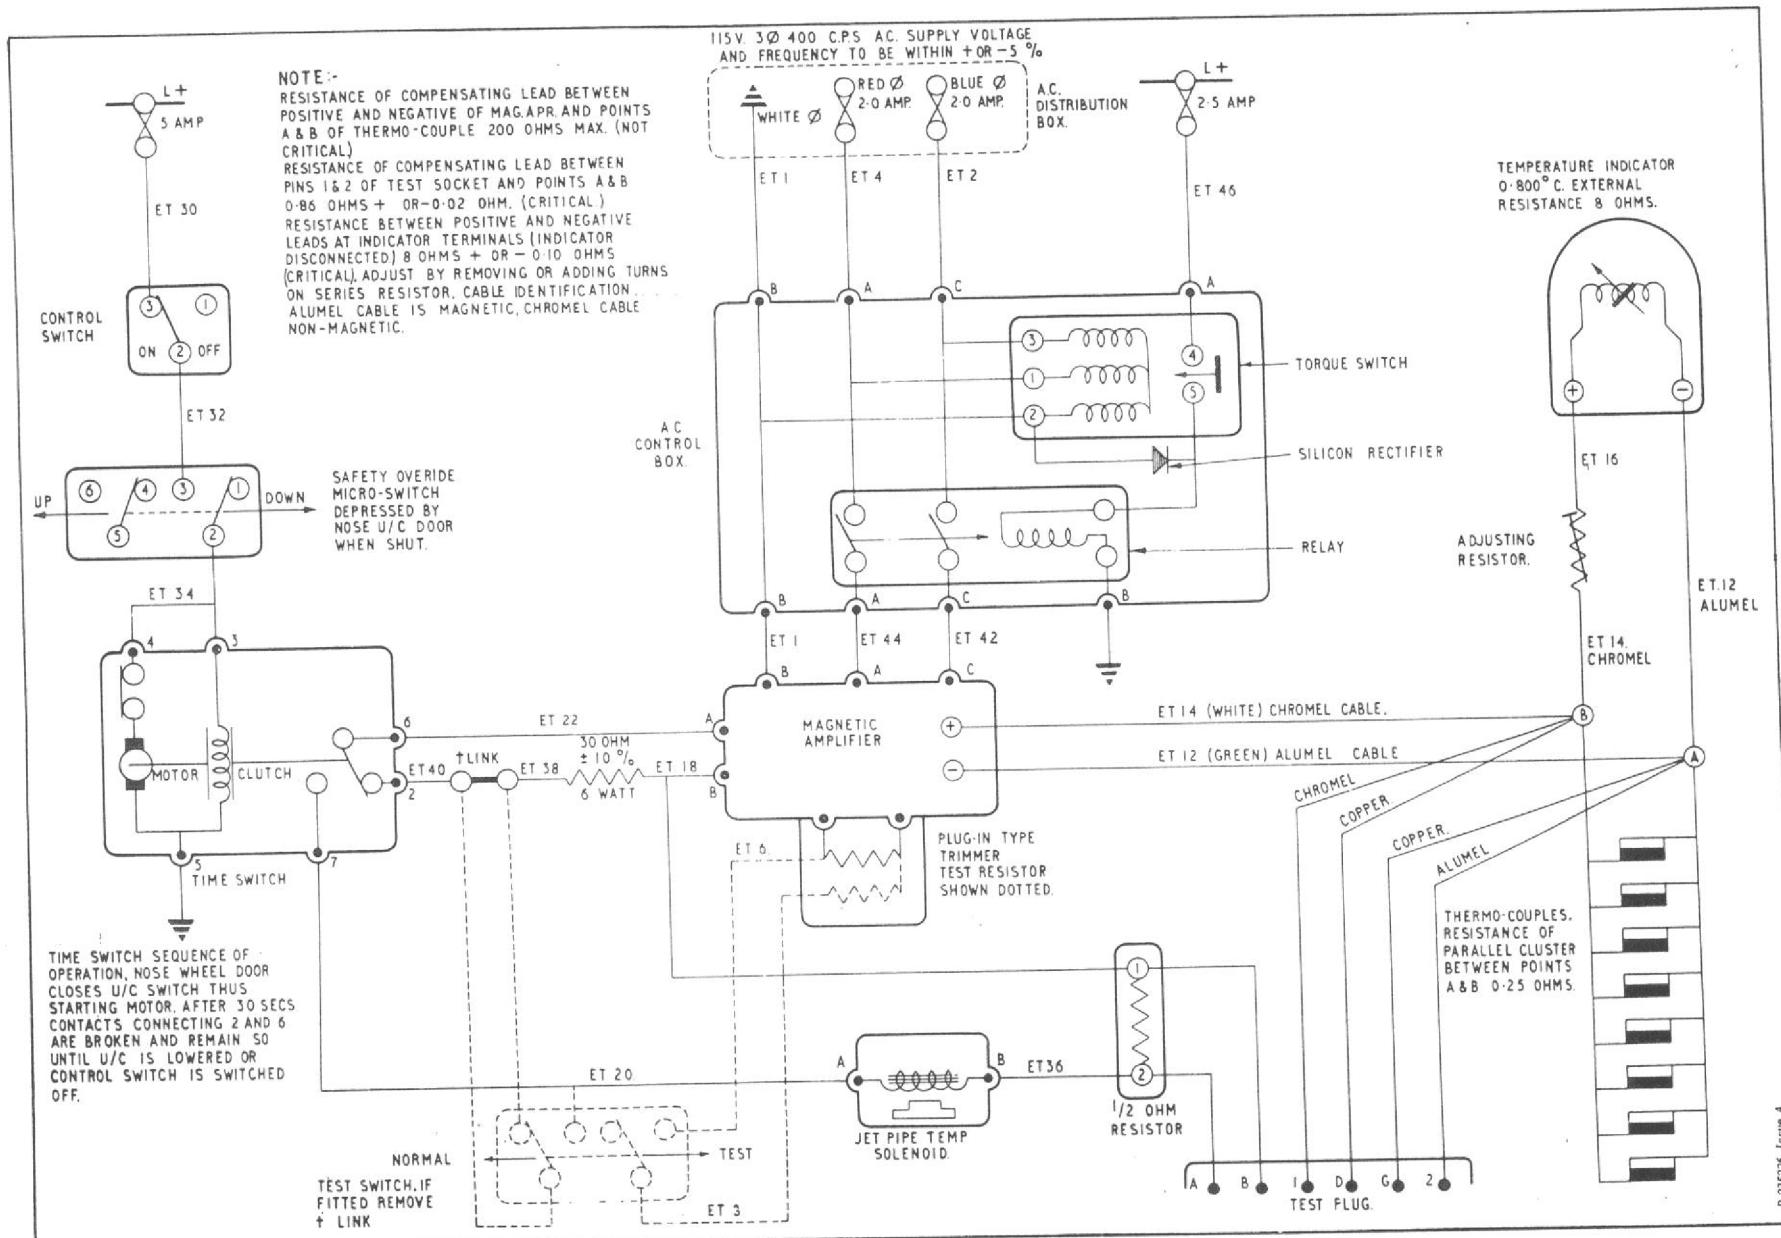

Fig.1 Exhaust gas thermometer and top temperature control (theoretical)
17. Check that the resistance of the compensating lead between positive and negative of magnetic amplifier and points B and A respectively (fig.1) does not exceed 20 ohms. Check that the resistance of compensating lead between pins 1 and 2 of test socket and points B and A respectively is 0.86 ± 0.02 ohms. Disconnect the positive and negative terminals on the exhaust gas indicator and check the resistance of the external circuit (extension leads and thermocouples) which should be $8 \text{ ohms} \pm 0.10$ ohms; if necessary adjust the series ballast resistor, connected into the positive (chromel) wire, by removing or adding turns of wire to the resistor spool. The resistance of the thermocouple cluster as measured between points A and B is 0.25 ohms.